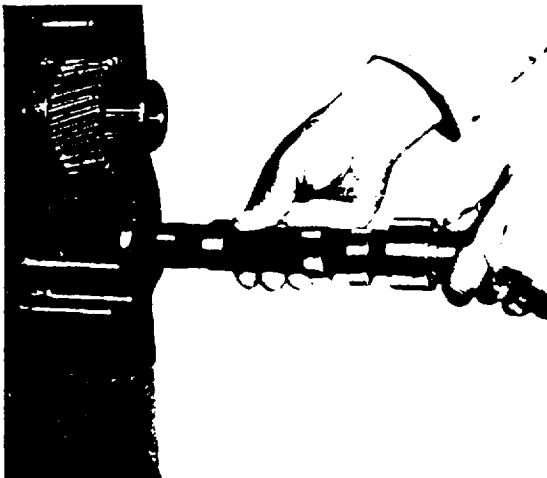

Fig. K.12.
7. Carefully withdraw the camshaft taking care not to damage the journals or cams (See Fig. K.12).